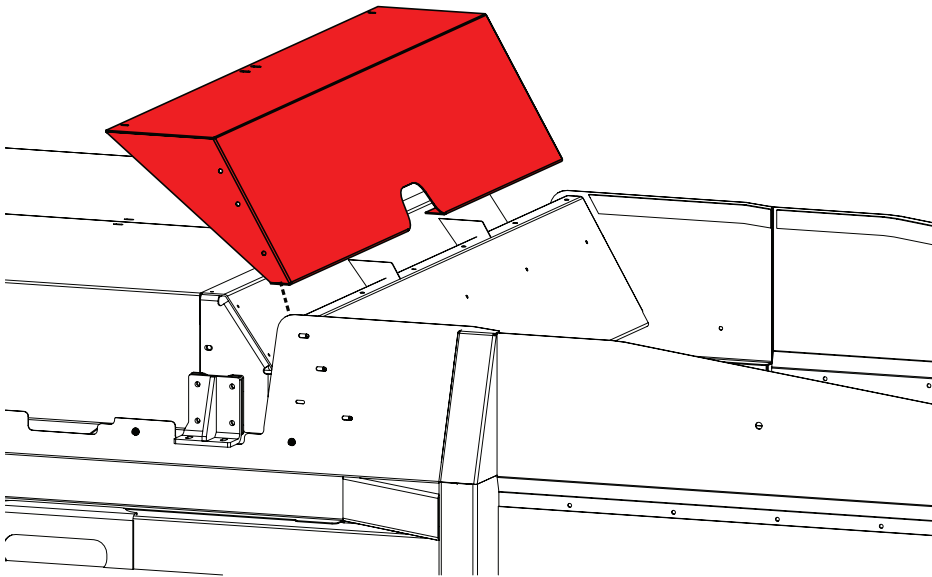

Figure 2
5. Move the refuse deflector weldment (Figure 2) into position at the roof mounted CNG system and align the deflector weldment so that you can install bolts in the three diagonal bolt slots on either side of the vehicle.